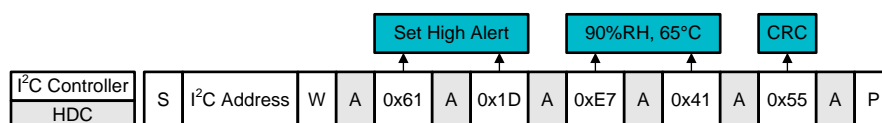

Figure 7-18. I²C Command Sequence: Example Programming of Set High Alert to 90% RH, 65°C
- a. Figure 7-18 illustrates the appropriate command to send to the HDC302x.